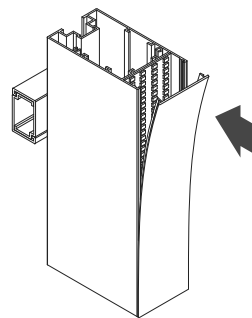

Figure 7a
- a. Starting at one end, align and compress the flexible legs of the diffuser lens into the snap fit channel of the STYX™ front light profile. Progressively install the diffuser lens down the length of the stick. (Figure 7a)